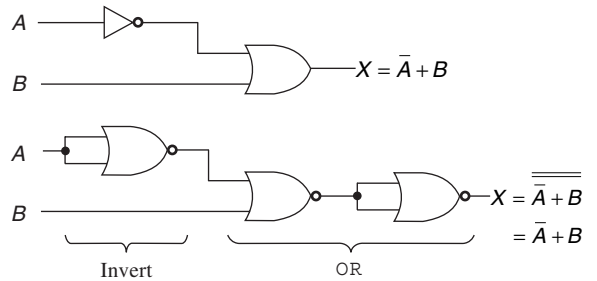

Fig. 5.58 NOR-NOR circuit for Problem 29.
29. We will need an inverter and an OR gate to provide the function for X . An inverter can be made from a NOR by connecting the inputs, and an OR can be made by inverting the output of a NOR, as shown in Fig. 5.58.